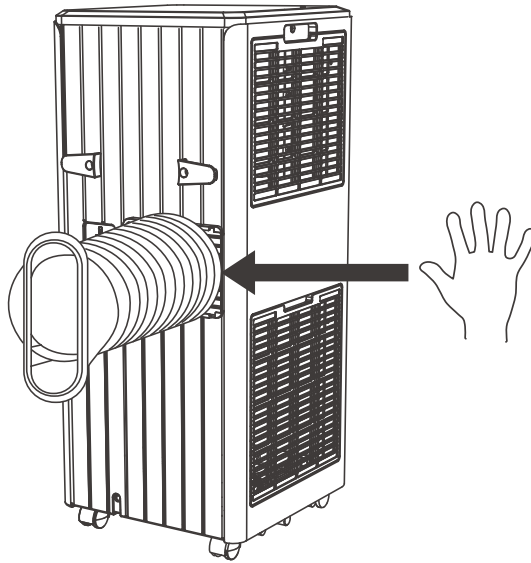

Figure 1
• Install the Heat Pipe Assembly (as shown in Fig.1)
- 2) Insert the heat pipe assembly (the end of the exhaust joint) into the back panel vent slot (push to the left) and complete the assembly (as shown in figure 1).